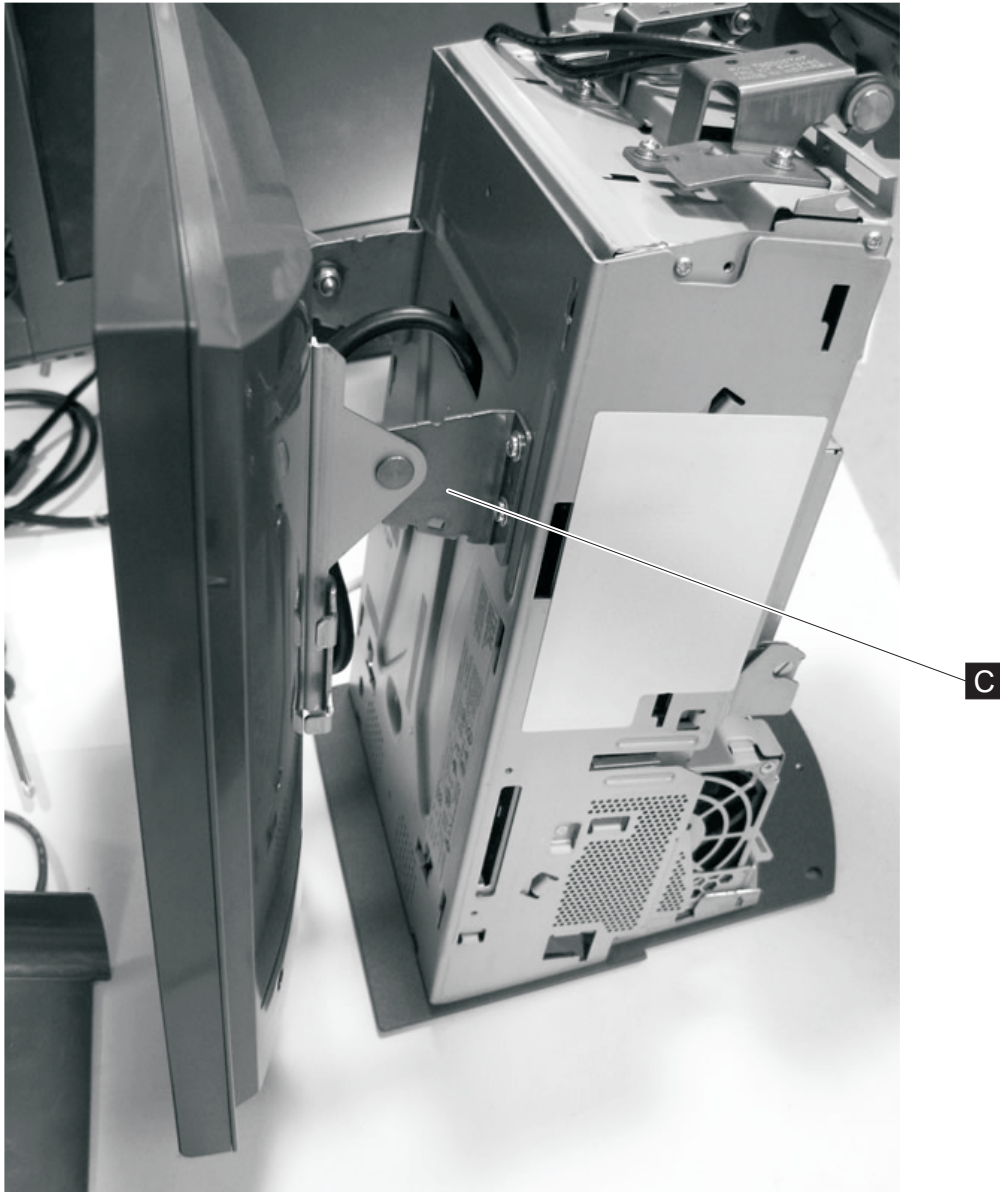

Figure 36. Hinge
9. Remove the hinge by removing the screws securing it to the unit. See **C** in Figure 36.